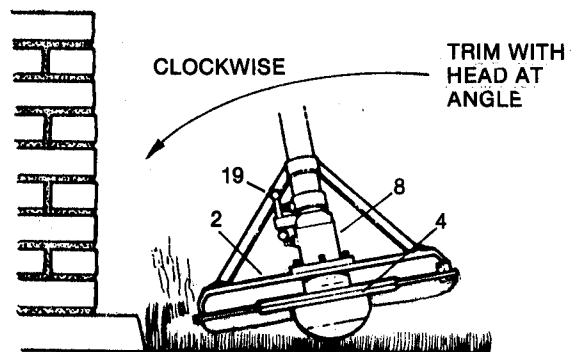

FIG. 6 - TRIMMING OPERATION
**ADJUSTING FOR TRIMMING** - Loosen "T"-BOLT (19), rotate FIXED LINE HEAD (4) CLOCKWISE to desired angle as shown in FIG. 6 - retighten "T"-BOLT. (locate pin (Y) in LEFT hole in MAIN FRAME (13) top).